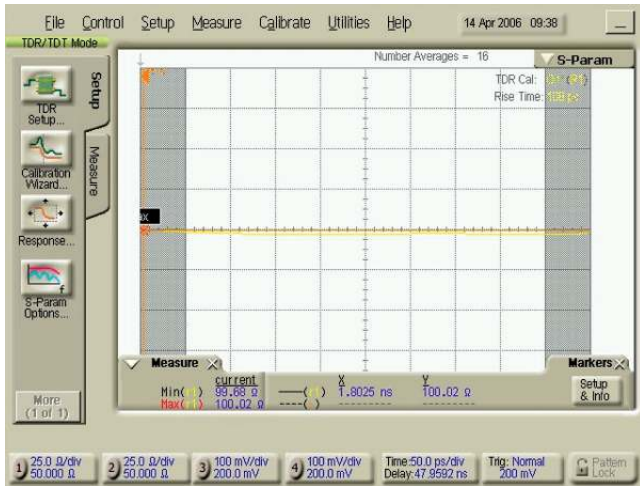

Figure 4. Cable Absolute Impedance
- 2 Using the min/max measurement functions measure and record the minimum and maximum differential impedance (see Figure 4).